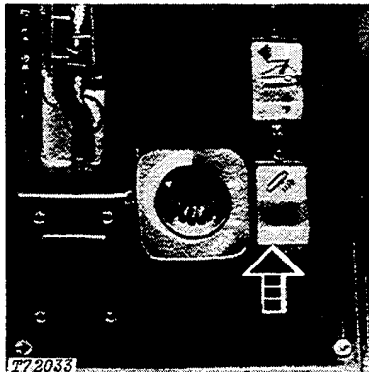

Fig. 16-Elevator Switch (Unloading)
2. Move the elevator switch to unload position (Fig. 16) or to neutral.